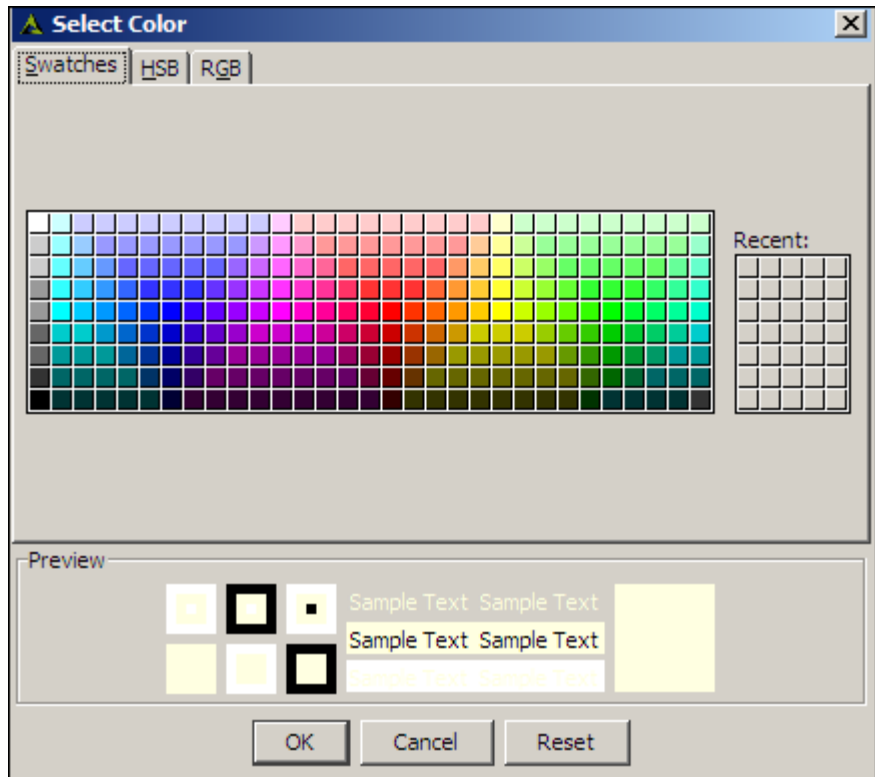

Figure 31: Select Color
2. The **Select Color** screen is displayed (see Figure 31).
2. This displays the **Select Color** screen (refer to Figure 31).